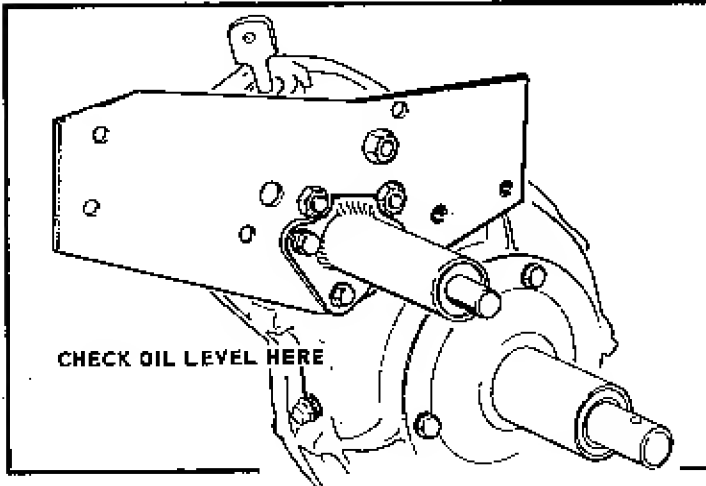

FIGURE 1
2. Check oil level in transmission case. (Fig. 1)
3. Check the oil level in the transmission at least every 25 hours. Use SAE #90 transmission oil. See Fig. 1.